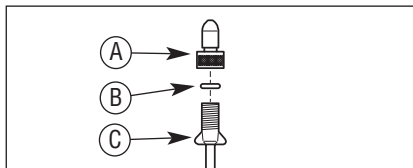

Figure 4. Install the Nozzle
1. Install the adjustable nozzle onto the end of the extension and tighten securely. See Figure 4.